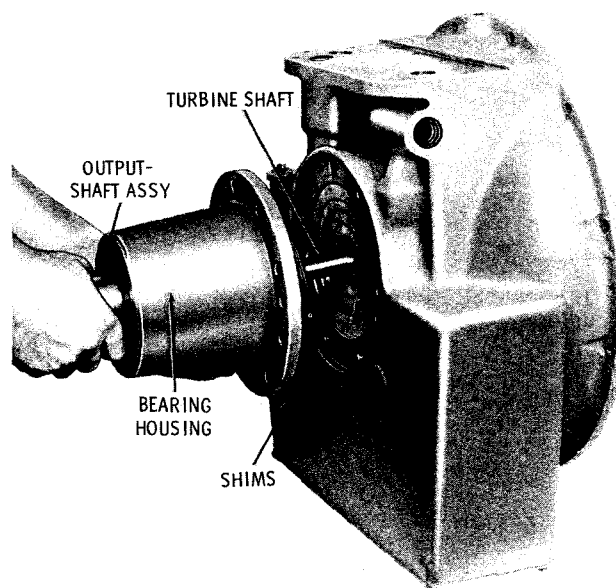

Fig. 5-5. Removing industrial output shaft assembly.
(1) Remove eight self-locking bolts 7 (B, foldout 4) that secure the bearing housing to the converter housing (fig. 5-5).
(2) Remove, as a unit, bearing housing 16 (B, foldout 4), output shaft 13 or 18, bearings 12, turbine shaft 1 and shims 15.
(3) Carefully remove the shims and tie them together. Refer to paragraph 6-5 for rebuild of the shaft and related components.